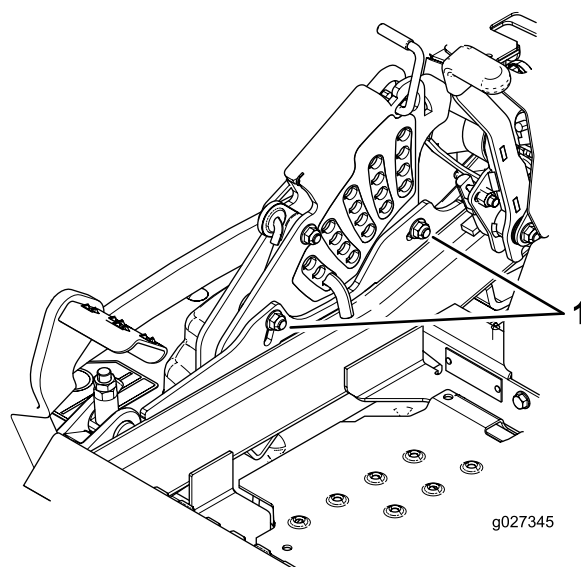

Figure 96
11. To adjust the single-point system, loosen the 2 bolts at the bottom of the height-of-cut plate (Figure 96).
13. Tighten the 2 bolts at the bottom of the height-of-cut plate (Figure 96).